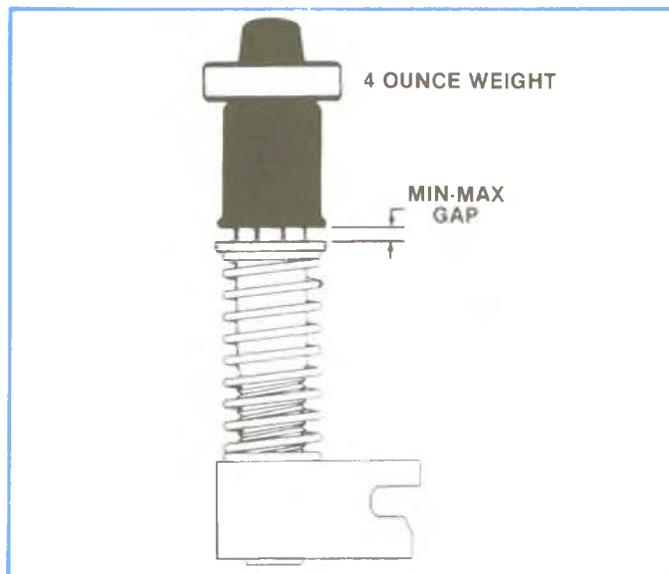

Figure 7-9
- d. Check for excessive min-max gap on pumps equipped with internal low idle springs. (See Figure 7-9).